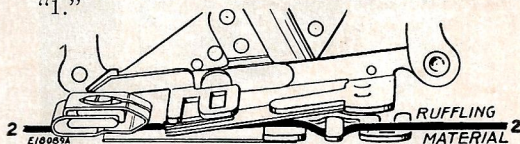

FIG. 65. CORRECT POSITION FOR MATERIAL TO BE RUFFLED
- (3) Insert the material to be ruffled between the two blue blades **Line 2, Fig. 65.**
- (4) Draw the material slightly back of the needle, lower the presser bar and start to sew.
- (5) For fine gathering, turn the adjusting screw **C** upward and shorten the stitch.
- (6) For full gathering, turn the adjusting screw **C** downward and lengthen the stitch.